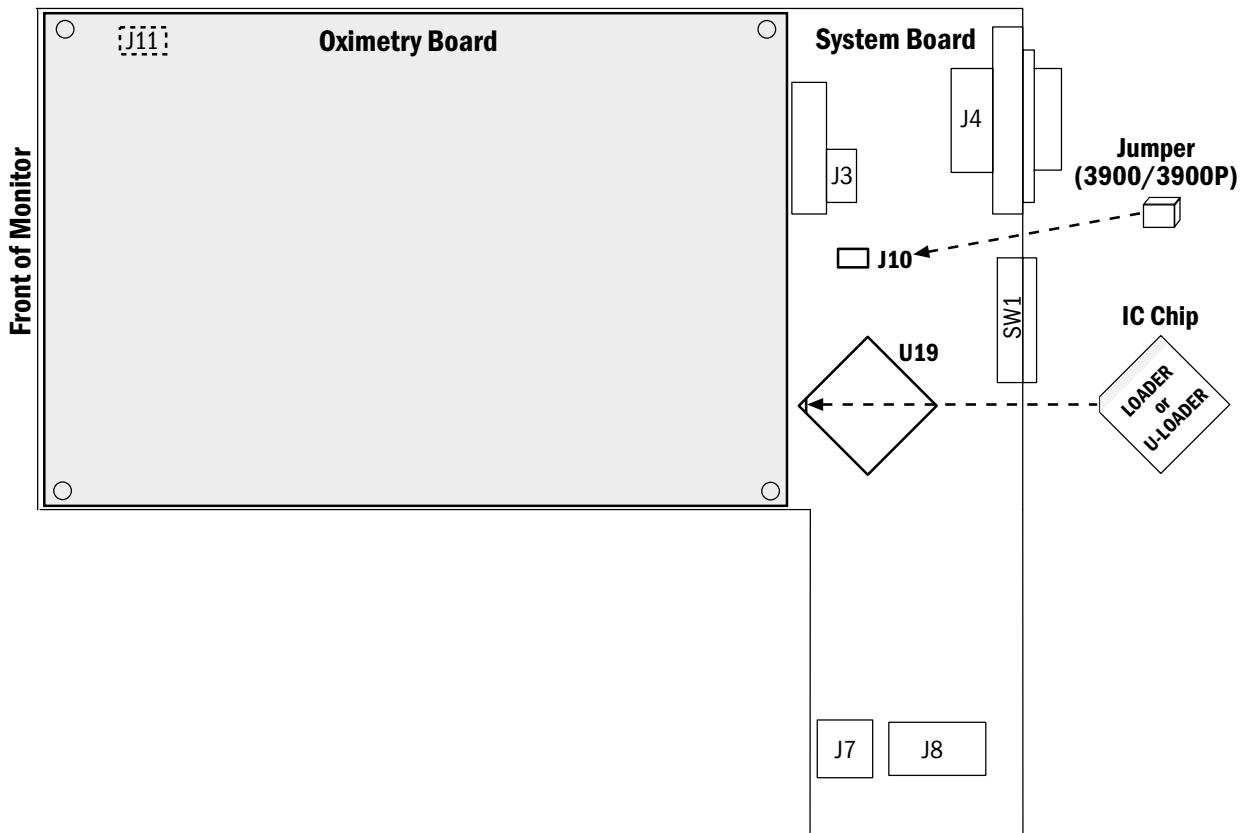

Figure 3-2. Jumper plug, upgrade socket, and LOADER/U-LOADER IC chip
NOTE: The system board in TruTrak+ monitors (6050-0005-742) is also used as the replacement board for any 3800/3900/3900P without TruTrak+. This board contains header J11 (see Figure 3-2), which is not present on earlier system boards.
6. (If you know whether or not your system board contains J11, skip this step.) Look for J11 on the system board (refer to Figure 3-2 for the location of J11).